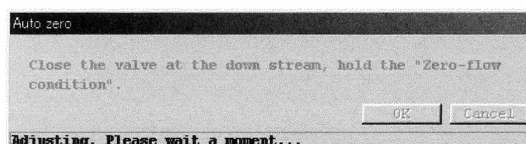

Fig.99
- ④ It takes about 30 seconds to complete the process of zeroing. While zeroing is in progress, a message box as shown in Fig. 99 appears.